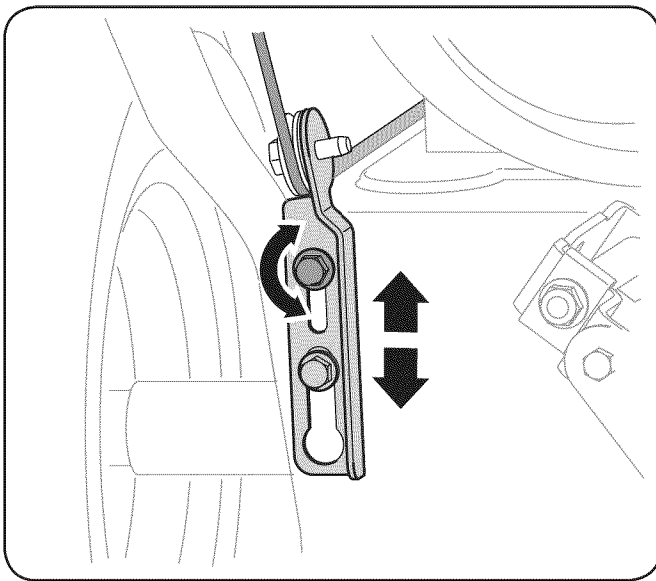

Figure 3-10
4. Allow the auger to remain engaged for approximately ten (10) seconds before releasing the auger control. Repeat this several times.
7. To readjust the control cable, loosen the upper hex nut on the auger cable bracket. See Fig. 3-10.